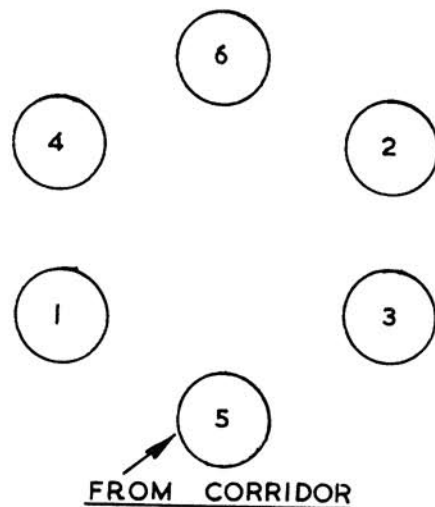

FIG 14 TORQUE SEQUENCE
- (2) Fit copper joint on liner with Hylomar jointing compound.
- (3) Lower head over studs on to liner.
- (4) Position cylinder head and secure exhaust manifold BEFORE tightening down head.
- (5) Coat cylinder head studs with molycote 'G' paste.
- (6) Fit nuts and ratchet head EVENLY down in sequence. Fig. 14.
- (7) Further tighten nuts down in sequence to 300 lb.ft. 500 lb.ft. and finally 600 lb.ft.